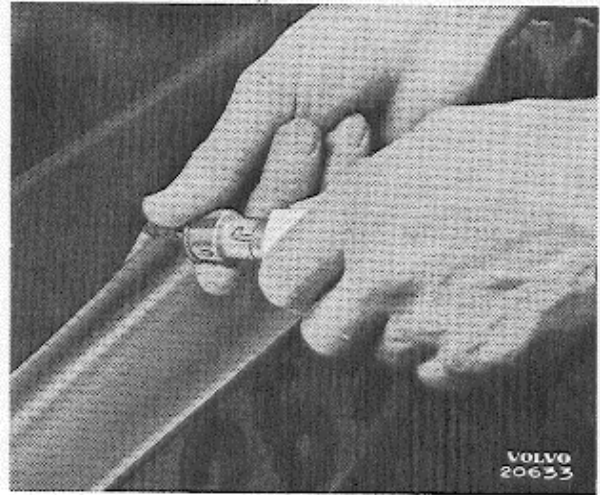

Fig. 20.
3. Fit the new bulb. Do not touch the glass with the fingers, fig. 20.